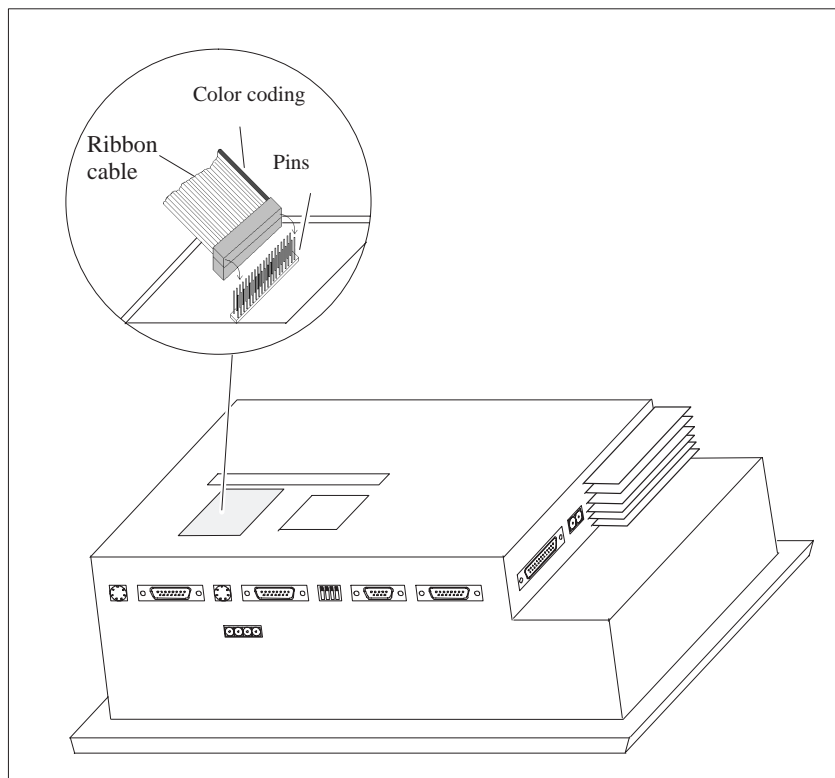

Figure 17-2 Connecting the direct key module (example: TP37)
3. Connect the plug of the DKM ribbon cable to the Touch Panel pin array so that the colored side of the ribbon cable faces in towards the inside of the unit (illustrated in an example of the TP37 in figure 17-2).